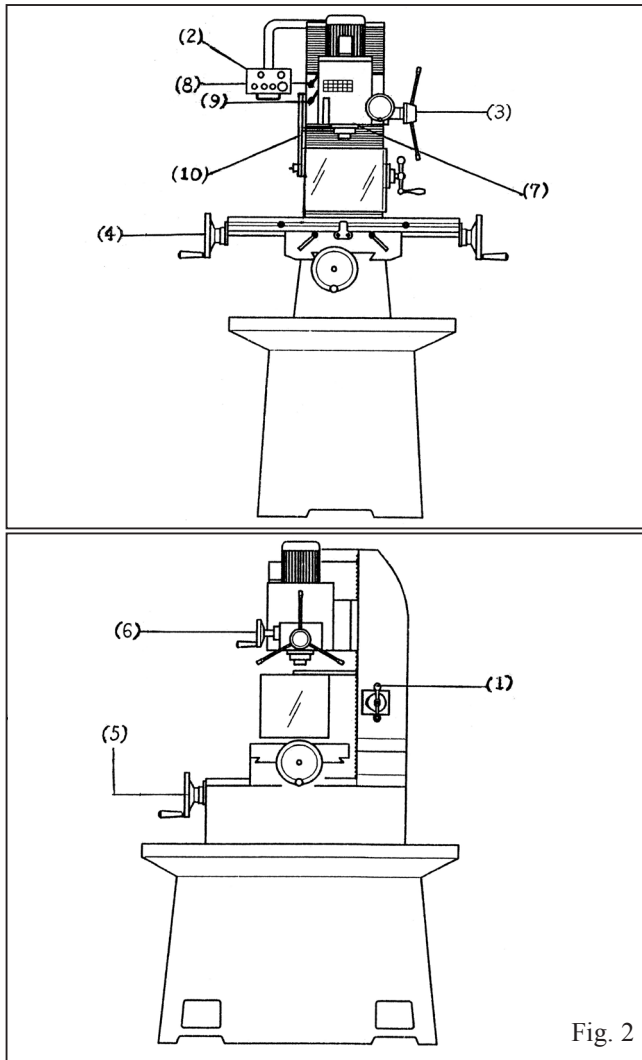

Fig. 2
2. After cleaning, coat all bright work with a light lubricant. Lubricated all points as fig. 2.
USE OF MAIN MACHINE PARTS (SEE FIG. 2):